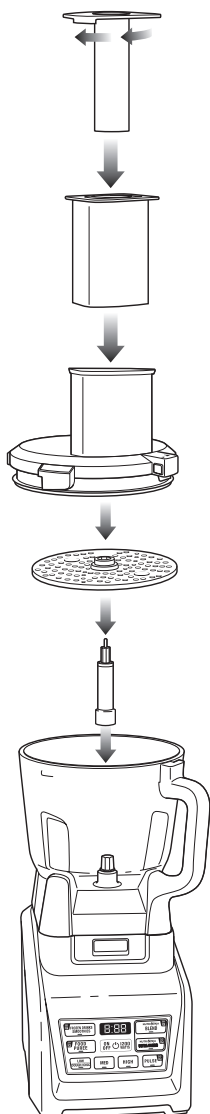

Fig. 6
- 2 Place the motor base on a clean, dry, level surface such as a counter or table top. (**Fig. 6**)